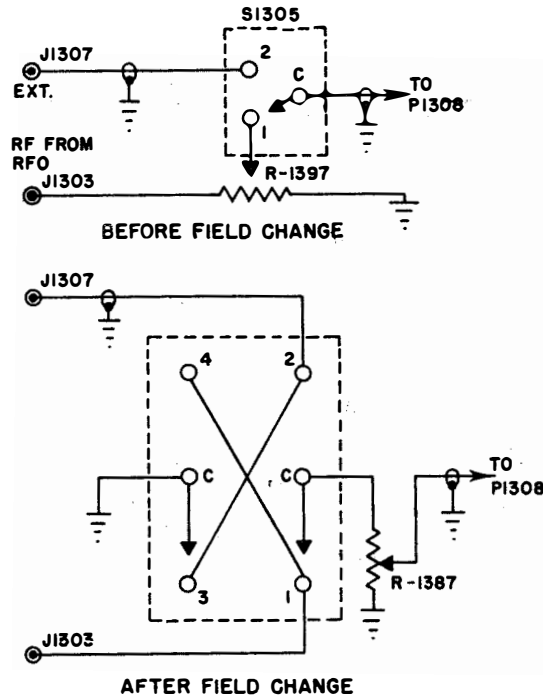

Figure 1
- a. Figure 7-159. Radio Frequency Amplifier AM-1008/SRT(RFA) wiring diagram (sheet 2 of 2). With pen and ink change the diagram to show DPDT switch instead of SPDT switch S-1305 and show connections in accordance with figure 1 of this correction.